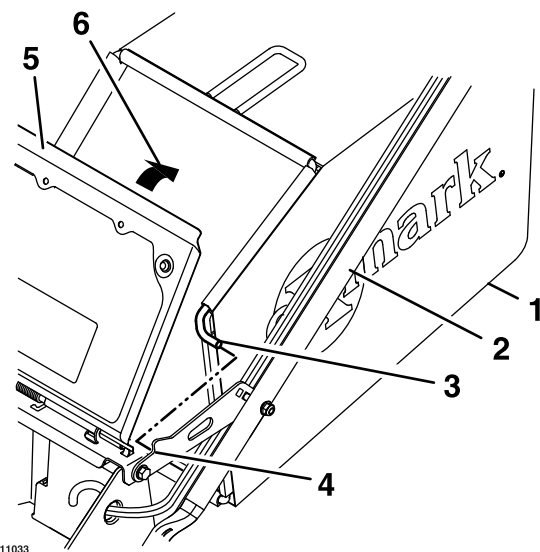

Figure 18
3. Grasp the handle on the bag and set the rear of the bag frame onto the handle bracket notch (Figure 18).